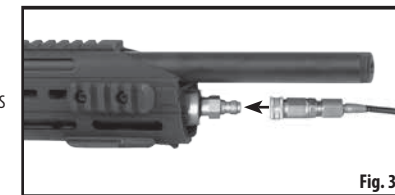

Fig. 3
6. Connect the quick-disconnect fitting on the hand pump hose to the fill nipple (Fig. 3)
6. Connect the quick-disconnect fitting on the adaptor's hose to the fill nipple (Fig. 3).